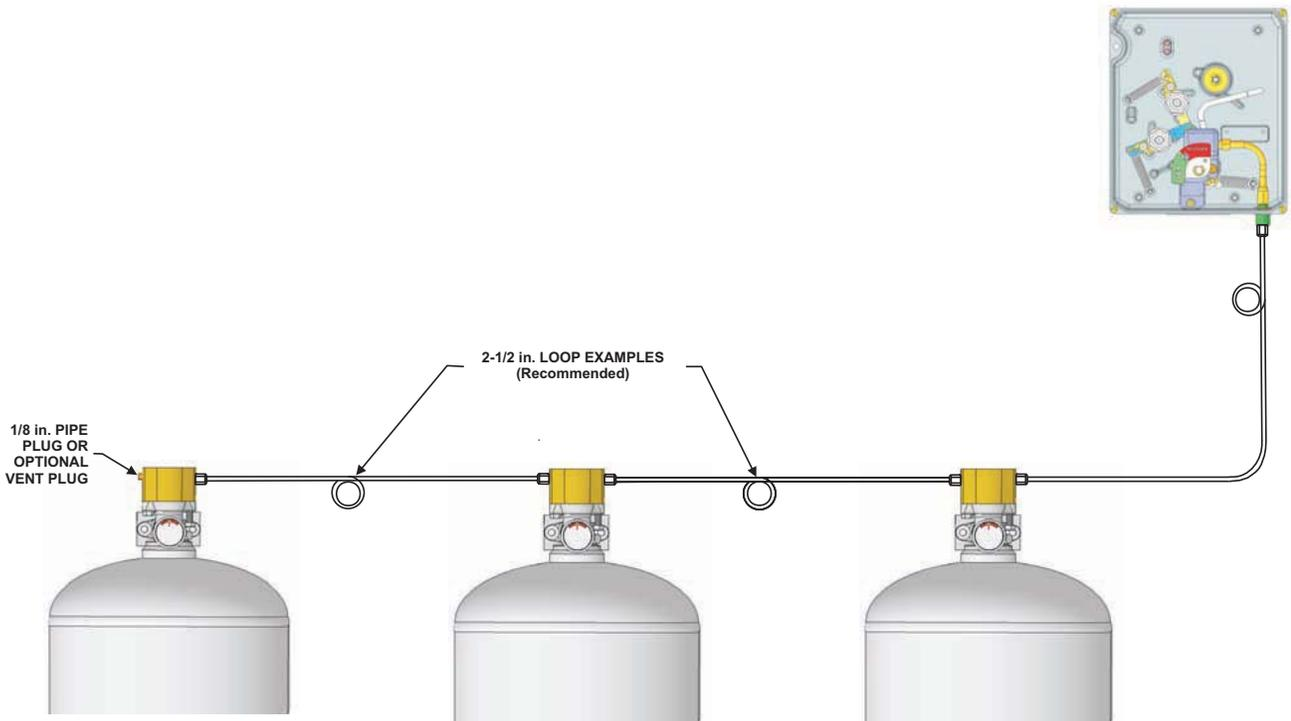

Figure 4-9. Example of Copper Tubing Loop Method
8. Install 1/8 NPT (M) x 1/4 copper tubing adapters. Compression type adapters are permissible.
9. Measure and install the 1/4 O.D. x 0.031 wall thickness copper tubing. A 2-1/2 inch (64 mm) loop between each cylinder and on the inlet tubing is recommended, but not required. See Figure 4-9. Ensure that each connection is secure.